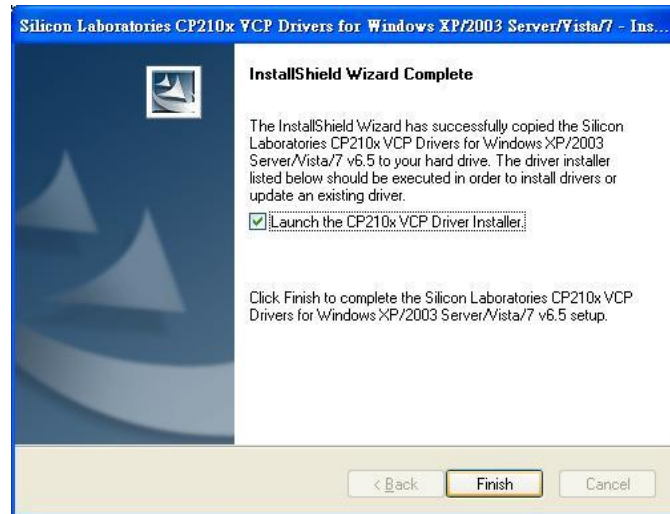

Figure 4-6: InstallShield Wizard Complete Screen
Step 8: The InstallShield Wizard Complete window appears (**Figure 4-6**). Check **Launch the CP210x VCP Driver Installer** and click **Finish** to launch the CP210x USB to UART Bridge Driver Installer.